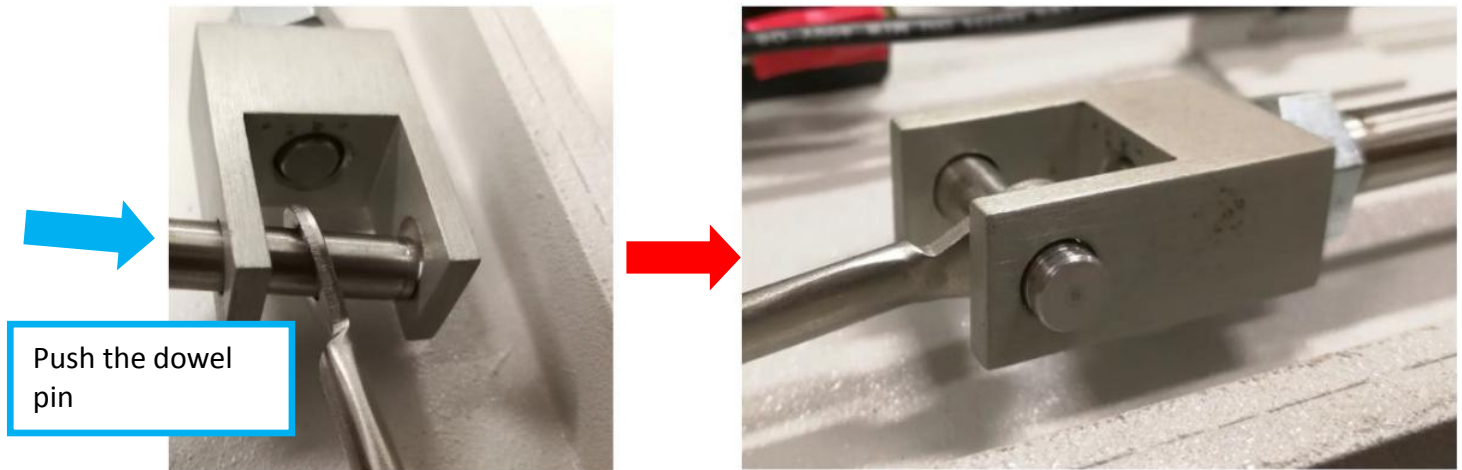

Figure 18
22. Push the dowel pin through Front Extension Block as below Figure 18